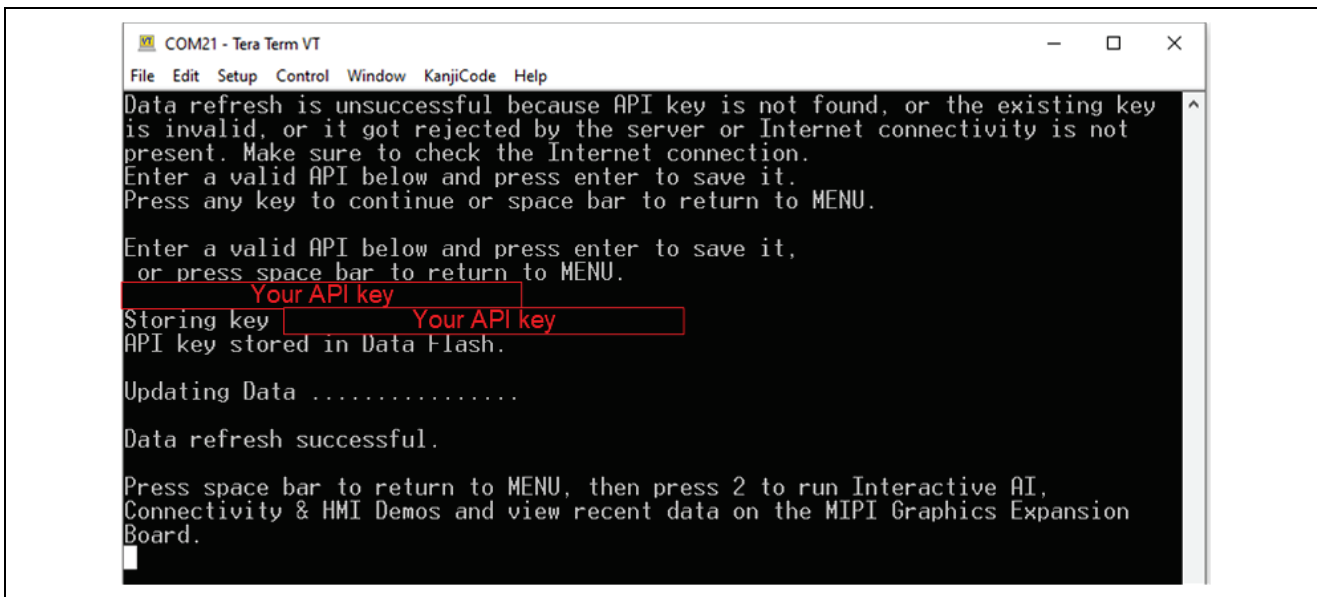

Figure 34. Entering Weather API keys for the First Time
4. If the API key does not exist, the console display is as shown in Figure 34.